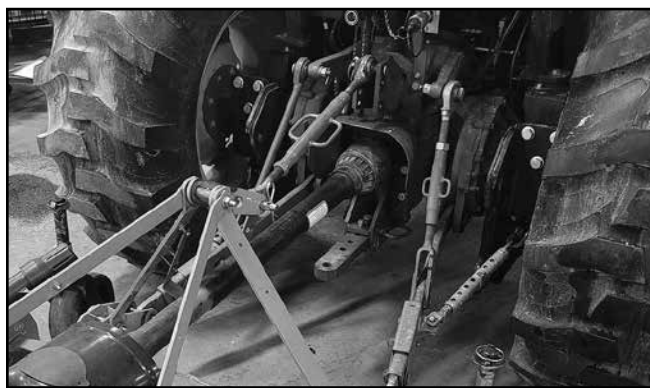

Figure 3. Attach Mower to Tractor
1. For Category 1 hitch, position lower hitch arms (14 & 15) with offset toward center of mower. For Category 2 hitch, position lower hitch arms (14 & 15) with offset toward outside of mower. Place hardware in the same hole for the rear lift links (12) as the lower hitch arm weldments (14 & 15).
2. Attach the mower hitch pins (20) to lower tractor lift arms and secure. For Category 2 tractors use sleeve 22.
3. Remove the driveline from the holder (17) and connect to the tractor PTO shaft. Be sure the QD is seated firmly in the tractor PTO spline groove.
6. For Category 1 tractors, attach tractor top link to mower top link brackets (11) attachment point A with CAT 1 top link pin. For Category 2 tractors, use sleeve (37) over CAT 1 top link pin. You can use bolt (5) and lock nut (15) instead of CAT 1 top link pin.
7. Adjust the tractor lower 3-point arm anti-sway devices to prevent mower from swinging side to side during transport. See Figure 3.